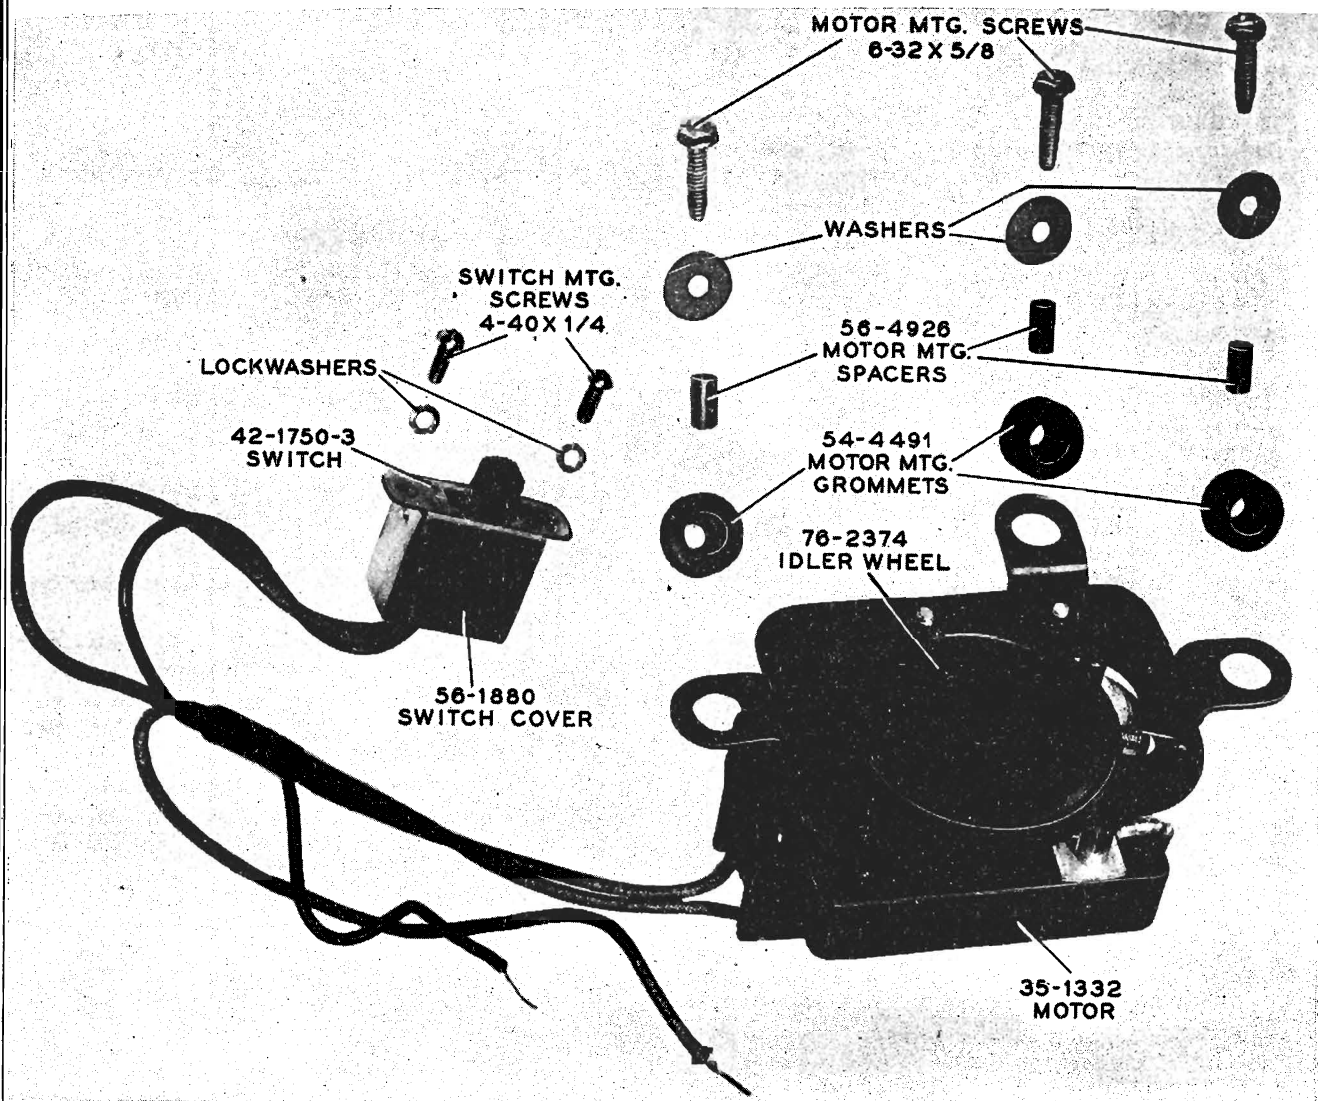

Figure 19—MOTOR, SWITCH, AND MOUNTING HARDWARE
- Remove the three screws, washers, and bushings from motor frame (figure 19), and lift motor out.